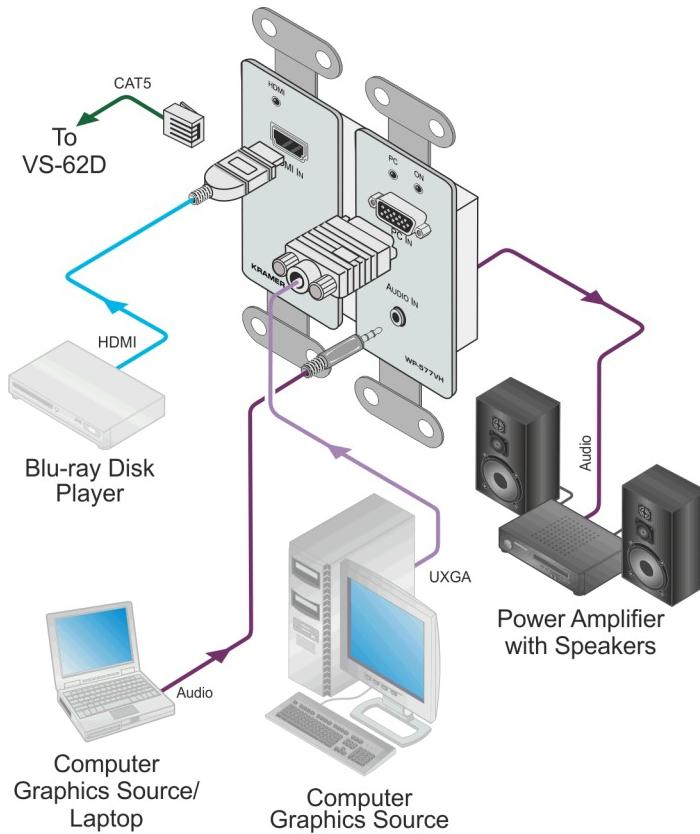

Figure 3: Connecting the WP-577VH Wall Plate
To connect the WP-577VH as illustrated in the example in Figure 3:
3. If not using PowerConnect, connect the power adapter to the **WP-577VH** and to the mains electricity (not shown in Figure 3).